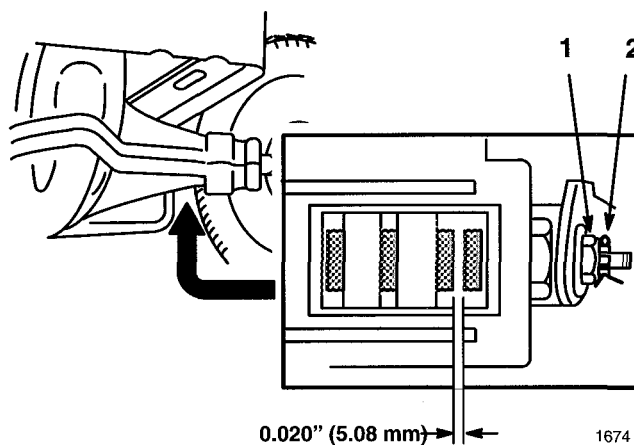

Figure 24
The brake is on the right side of the rear axle, inside the rear tire (Fig. 24). If the parking brake does not hold securely, an adjustment is required.
3. To adjust the brake remove the cotter pin and loosen the brake adjusting nut slightly (Fig. 24).
4. Carefully insert a 0.020" (5.08 mm) feeler gauge between the two outer brake pads (Fig. 24).